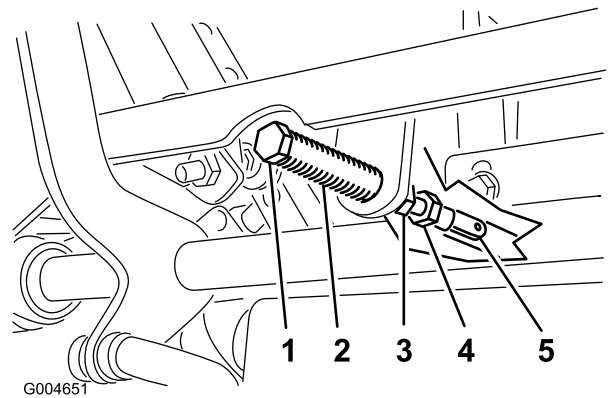

Figure 40
5. Pull the lever back until the clevis pin (on an arm above the pivot shaft) contacts the end of the slot (just beginning to put pressure on the spring) as shown in Figure 40.
7. If adjustment is needed, loosen the nut and jam nut against the yoke (Figure 40).
8. Applying slight rearward pressure on the motion-control lever, turn the head of the adjustment bolt in the appropriate direction until the control lever is centered in the NEUTRAL-LOCK position (Figure 40).
9. Tighten the nut and jam nut (Figure 40).
10. Tighten the jam nuts at the ball joints (Figure 40).